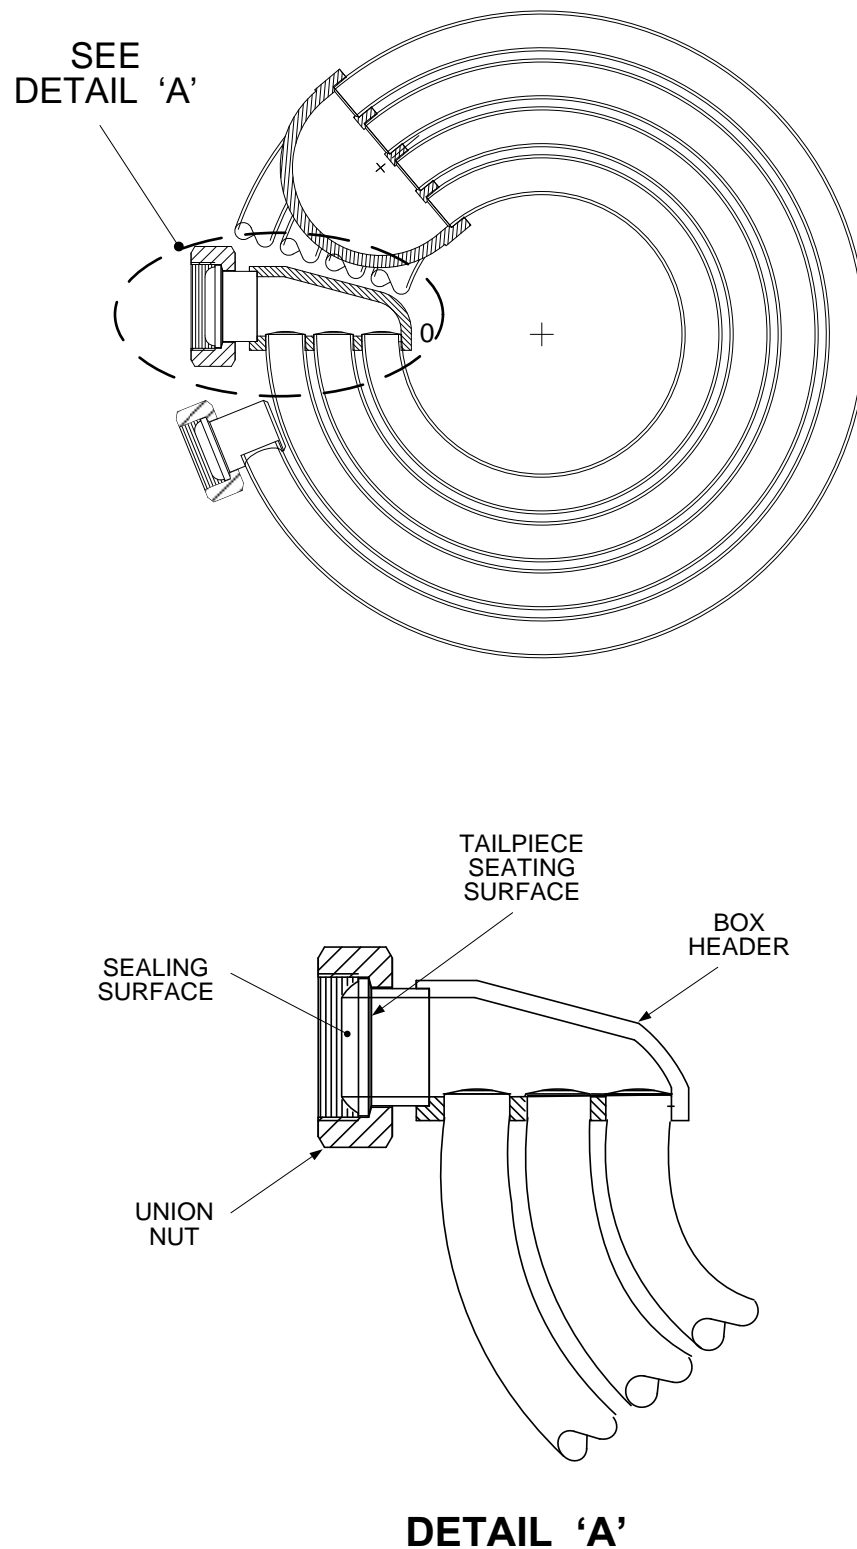

Figure 14: Coil Assembly Preparation
Note that all part item numbers are given in parentheses () in the instructions below refer to those shown in Figures 14, 15, 16, 17, or 18.
- 1) Visually inspect all Tail Piece sealing surfaces for cleanliness and evidence of damage. (Figure 14).
- 2) Pull the Union Nut forward against the seating surface of the Tail Piece and rotate the Union Nut several turns to check for any obstructions around the perimeter of the seating surface. (Figure 14).